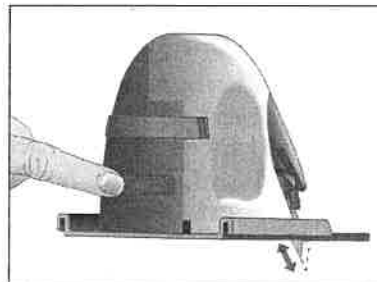
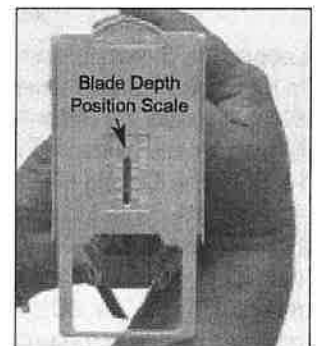

Fig. 4
Fig. 5
- 4 Before setting down the cutter, stand the Circle Cutter on its side. With one hand on the Hand Grip Ridges, turn the cutting knob in a counterclockwise position until the blade returns to the highest position (Fig. 4).
The blade can be raised or lowered by turning the Blade Adjustment Knob found on the back side of the cutter (Fig. 4). On the bottom of the cutter, the Blade Depth Position Scale provides a rough guide to the blade depth position (Fig. 5). Sizes up to 1/2" (13mm) suitable material.
- 4 With the blade positioned off the top edge of the material, push the Cutting Head downward. With the Cutting Head fully depressed, pull the cutter backwards along the Channel Rail and continue along the length of the material (Fig. 4).
- 1 The blade can be raised or lowered by turning the Blade Adjustment Knob found on the back side of the V-Groove Cutter (Fig. 5).